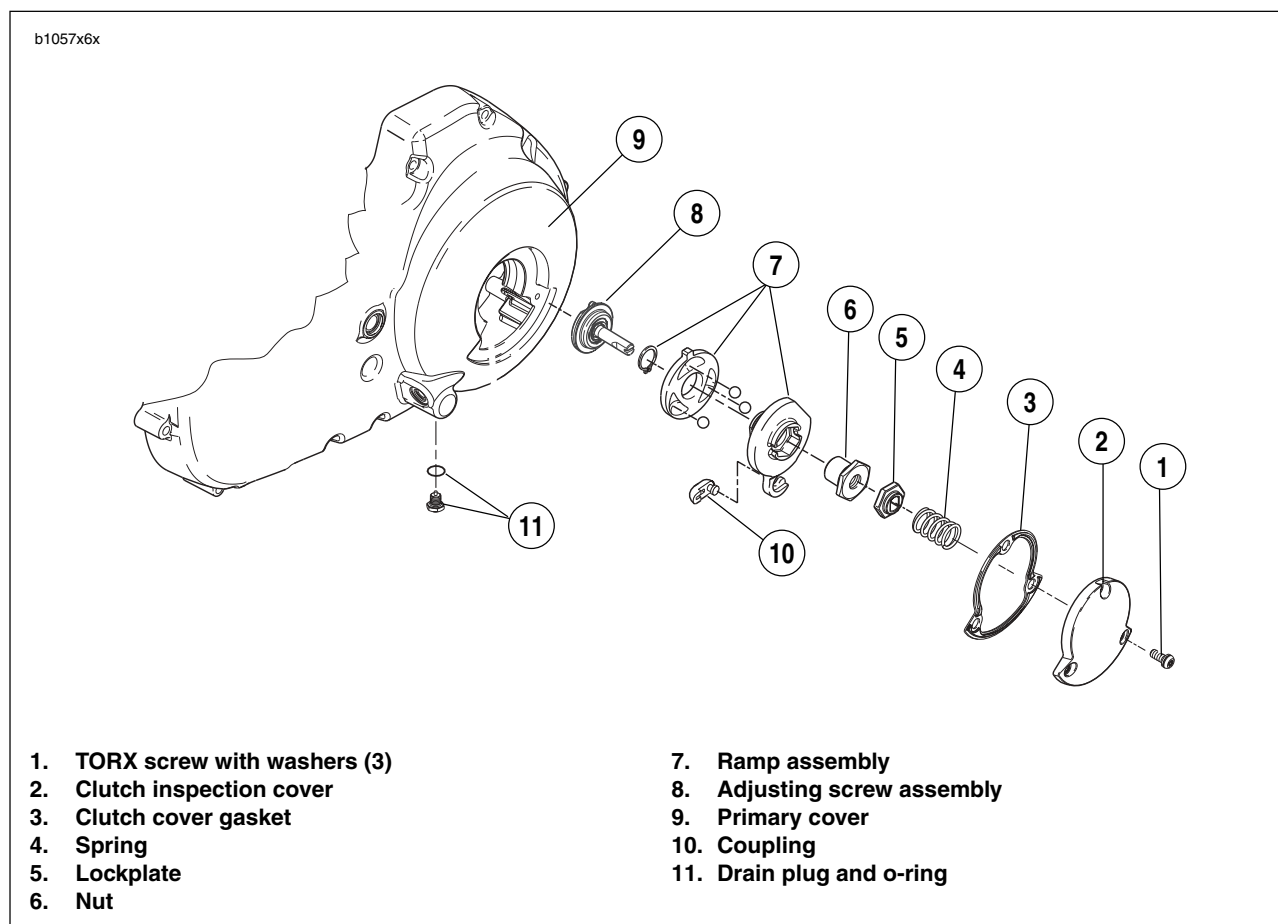

Figure 6-9. Clutch Release Mechanism
4. See Figure 6-9. Remove three TORX screws with washers and clutch inspection cover.
5. Slide spring (4) with attached screw lockplate (5) from flats of adjusting screw.
6. Turn adjusting screw clockwise to release ramp and coupling mechanism (7). As the adjusting screw is turned, ramp assembly moves forward. Unscrew nut (6) from end of adjusting screw.
7. Remove hook of ramp from cable end coupling (10). Remove cable end from slot in coupling.
2. See Figure 6-9. Inspect three balls of release mechanism and ball socket surfaces of inner and outer ramps for wear, pitting, surface breakdown and other damage. Replace parts as necessary.